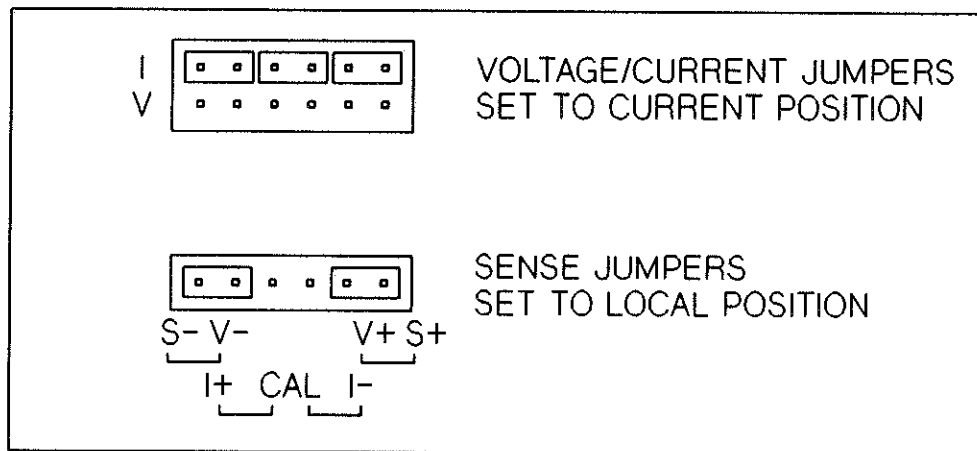

Figure 15-11 Configuration Jumpers set to Current/Local Positions
1. Perform the setup procedure in Section 15-22, except place the Sense jumpers in the LOCAL position (and not the CAL position) as shown in Figure 15-11.